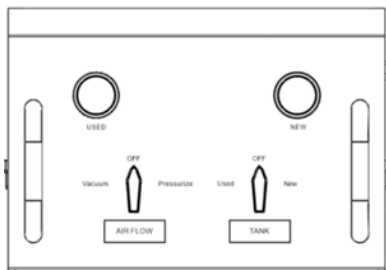
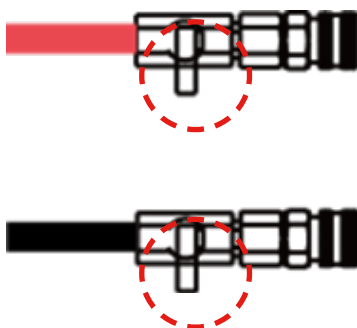

Fig 1.
Fig 2.
1.Initial position (Fig.1, Fig. 2, all valves closed)
4. Turn both valves on the panel to the "OFF" position (Fig.1) and keep the valve on the used fluid hose open (Fig.7), to maintain vacuum pressure in the vehicle's coolant system. Monitor the pressure gauge on the used tank to perform a leakage analysis of the cooling system.